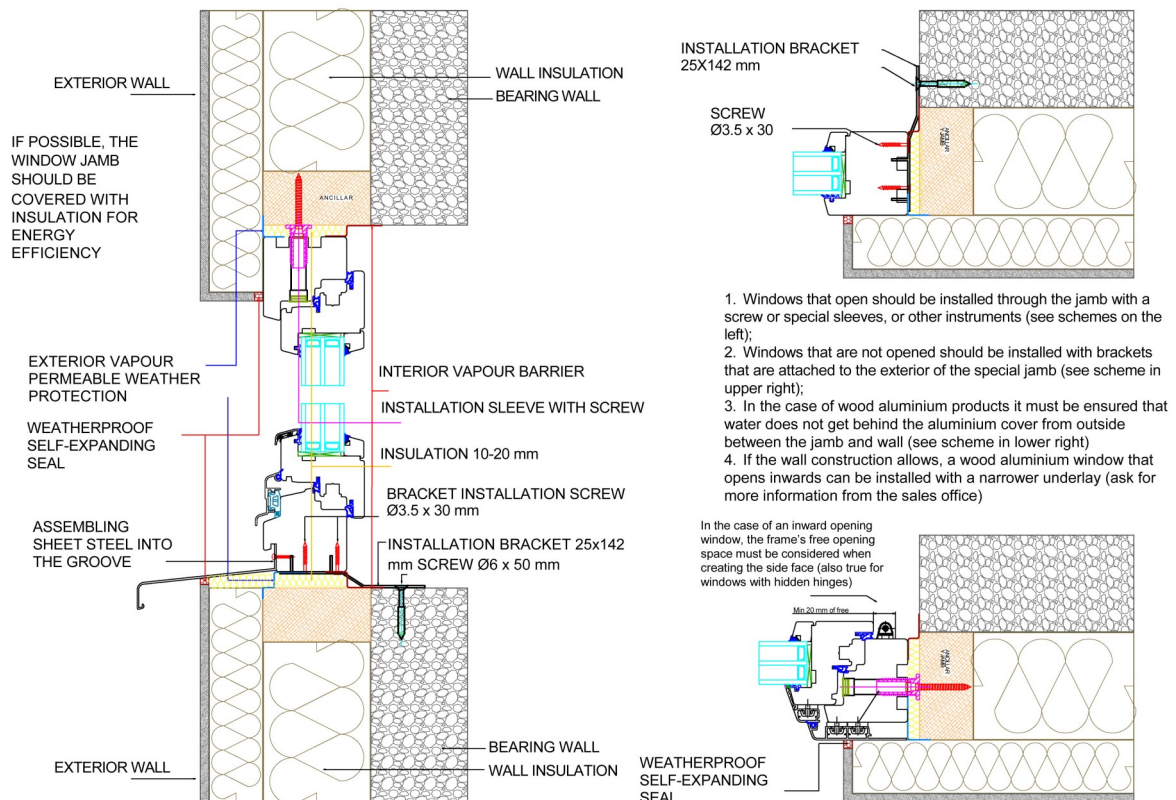

Figure 6. The installation schemes of inward opening DK13 and DK88 windows, balcony doors, and sliding doors
5. SW14 Fireguard windows (both openable and fixed lights) must be fixed with wall using both stainless steel sleeves and installation brackets (see figure 9 and 10 page 7). Openable DK88 Fireguard window must be installed according the remarks of the figure 9 and the general guide lines of inward opening window installation (see figure 6 page 5)
NB! Openable DK88 Fireguard Window is installed according DK88 scheme (see figure 6 page 5) with following exceptions: insulation must be rockwool; installation sleeves or load-bearing brackets must be made of steel (resistant of high temperatures); all the support blocks and/or installation wedges must be made of hardly ignitable materials (e.g. oak; materials with special fire resistant treatment ect.)